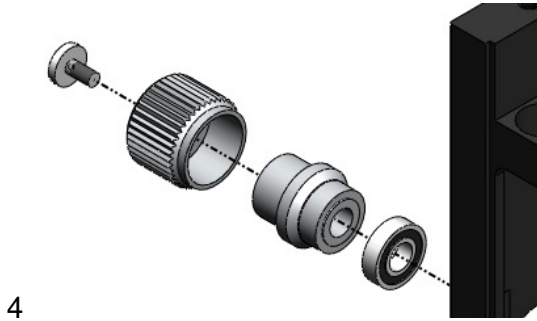

Figure 14 - Left Hand Dial Assembly components
3. Remove all components shown in Figure 14. There is a grub screw to loosen the knurled knob spacer from the lead screw.